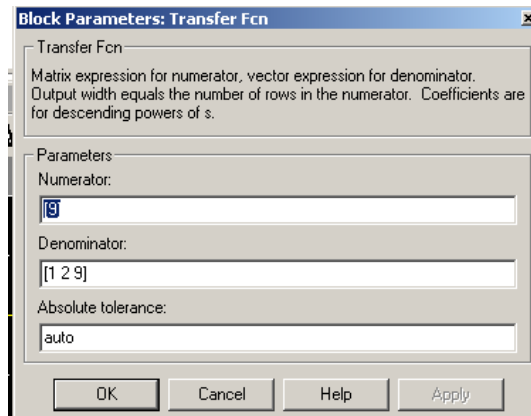

Figure 7. Transfer Function Setup
2.2.3 Setup Transfer Function. Double click on the transfer function block and the window will open as in Figure 7. Enter the coefficient values for the system transfer function given below. The coefficients for numerator and denominator polynomials are entered from highest order (s^2) to lowest (s^0). Delineators for transfer function coefficients can be spaces or commas. Values should be 9 for numerator and 1, 2, 9 for denominator.